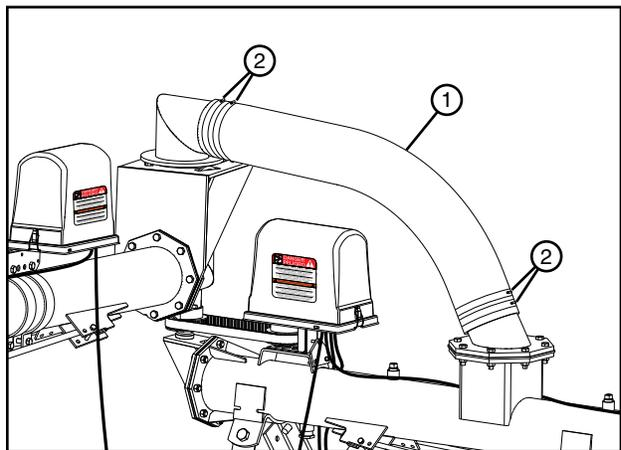

Figure 26-2 1. 6 in Hose
If the 6 in hose is sufficiently weather-cracked, checked, or leaking, replace the hose. Follow the steps below to replace the 6 in hose. See Figure 26-2.
1. Loosen the hose clamps. See Figure 26-2.
5. Tighten the hose clamps. See Figure 26-2.